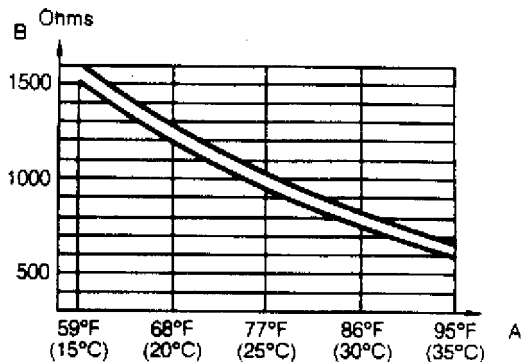

Fig. 13: Outside Temperature Sensor Graph
2) Check wire from control head terminal No. 5 to outside temperature sensor for open or short circuit. If okay, check ground wire from outside temperature sensor for open circuit. If okay, check resistance of outside temperature sensor. If resistance is okay, replace control head. If resistance is not okay, replace sensor. See Fig. 13.